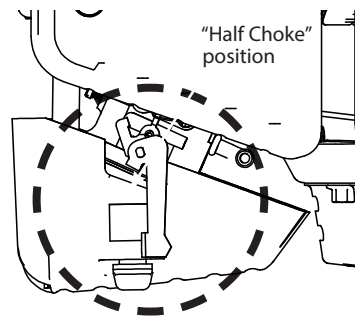

Figure 4
9. After engine begins operating, move choke lever to "Half Choke." **SEE FIGURE 4.**